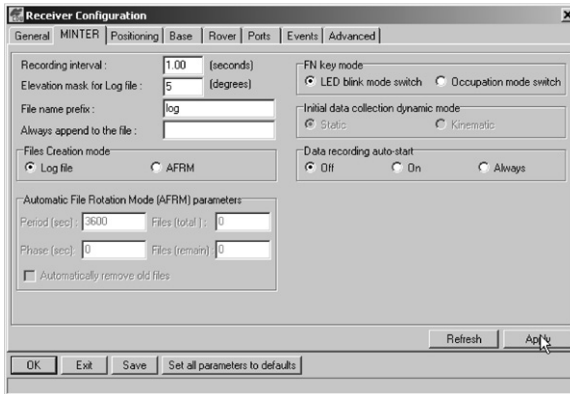

Figure 2-35. Receiver Configuration – MINTER
3. Click the **MINTER** tab, set the following parameters and click **Apply** (Figure 2-35 on page 2-31). See the following pages for descriptions of these parameters.